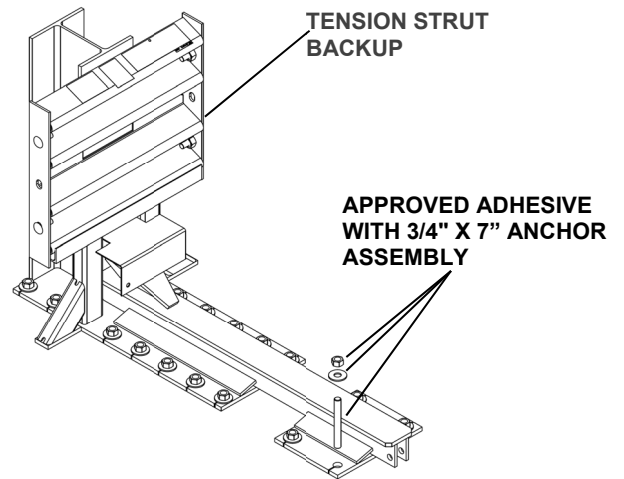

Figure 16
B) Tension Strut Backup (Figure 16)